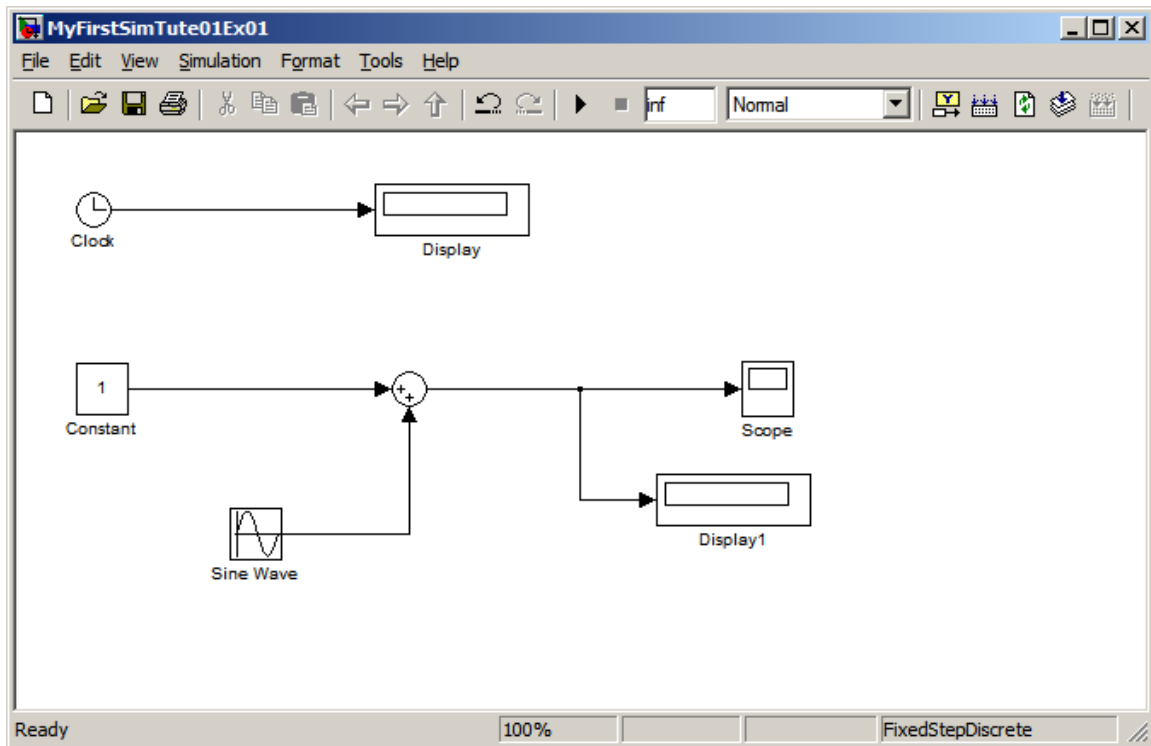

Figure 3 The Simulink model 'MyFirstSimTute01Ex01.mdl'
- Connect/wire blocks as shown in **Fig. 3**.